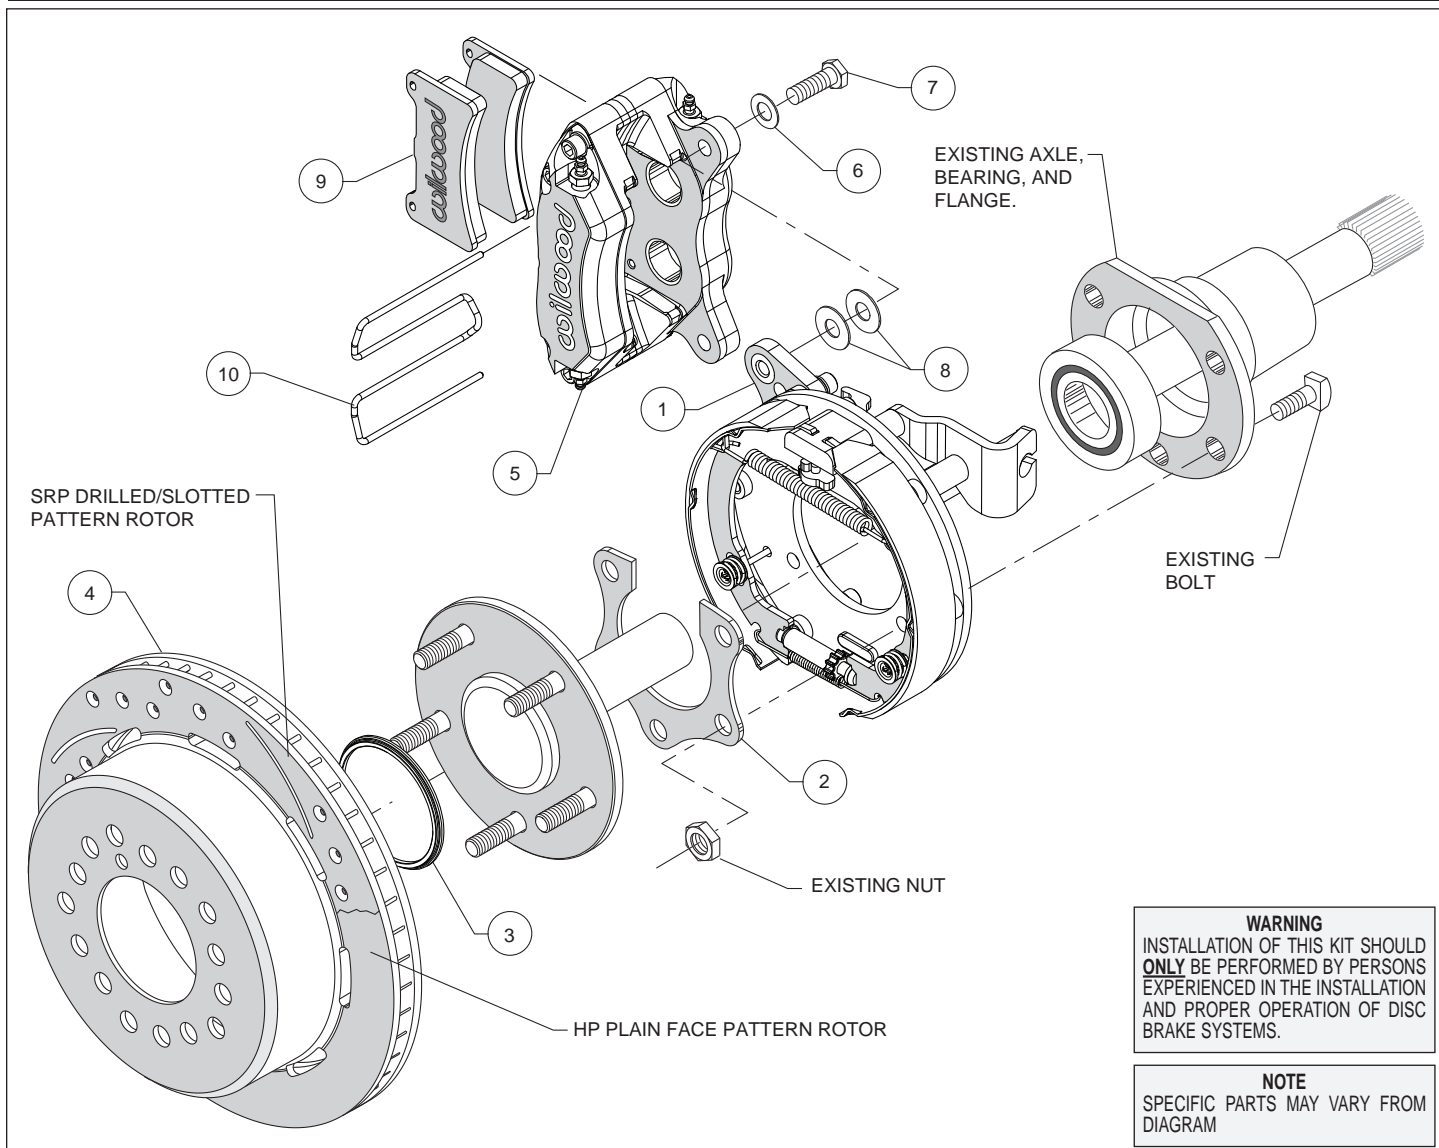
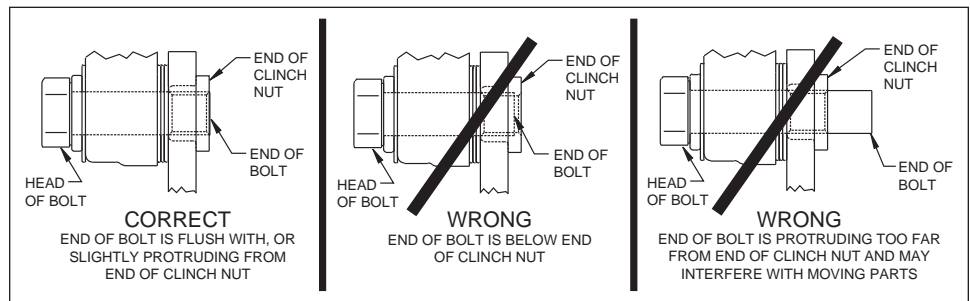

Figure 3. Typical Installation Configuration
Figure 7. Clinch Nut Engagement Diagram
**Assembly Instructions** (numbers in parenthesis refer to the parts list, and Figure 3 on the preceding pages): **CAUTION:** All mounting bolts must fully engage clinch nuts. Be sure to check that all bolts are either flush or protruding through flanged side of clinch nut after shimming, Figure 7.
- Determine that the appropriate snap ring style green bearing has been installed on the axle, as shown in Figure 2. Temporarily remove snap ring from bearing. Orient the bracket assembly (1) as shown in Figure 3 and Photo 1 and slide it onto the axle and over the bearing. Reinstall snap ring on bearing. Insert the axle and bracket into the axle housing. Ensure that the bracket assembly backing plate fits flush against the axle housing flange.
- Install the bearing retainer (2) with the opening pointing upward and the bearing relief step facing inward (toward the bearing), as shown in Figures 3 and 6. Secure retainer and bracket assembly to the axle housing flange using the Original Equipment Manufacturer (OEM) bolts and nuts, Figure 3. Apply red *Loctite*® 271 to the OEM bolt threads and torque to OEM specifications.
- Slide the rotor registration adapter (3) onto the axle register on the axle flange with the smaller O.D. facing toward the rotor/hat (4), Photo 2. Align the correct hole pattern in the rotor/hat with the stud pattern on the axle flange and slide into place, Figure 3 and Photo 3. **NOTE:** The rotor/hat must fit flush against the axle flange or excessive rotor run out may result. Install three lug nuts (finger tight) to keep the rotor/hat assembly in place while continuing with the installation. **NOTE:** Some OEM and after market axles come with stud sizes larger than 0.50" diameter. Verify stud size and have a qualified machine shop drill the bolt circle of the hat/rotor to the correct stud size, if necessary.
- **NOTE:** Please reference the caution statement at the beginning of the assembly instructions. Mount the caliper (5) onto the caliper mounting bracket (1) using bolts (7) and washers (6), as shown in Figure 3. Initially place two .035" thick shims (8) on each bolt between the caliper and the bracket, Photo 4. Temporarily tighten the mounting bolts and view the rotor (4) through the top opening of the caliper. The rotor should be centered in the caliper, Photo 5. If not, adjust by adding or subtracting shims between the bracket and the caliper. Always use the same amount of shims on each of the two mounting bolts. **NOTE:** The end of each bolt must be flush with or slightly protruding from the head of the clinch nut, as shown in Figure 7. If necessary place spare shims between washer (6) and caliper mounting ear to achieve the proper clinch nut engagement. Once the caliper alignment and clinch nut engagement are correct, remove the bolts one at a time, apply red *Loctite*® 271 to bolt threads, and torque to 40 ft-lb.
- Install the disc brake pads (9) into the caliper, with the friction material facing the rotor (4), and secure in place using pad clip retainer (10), Photo 6.